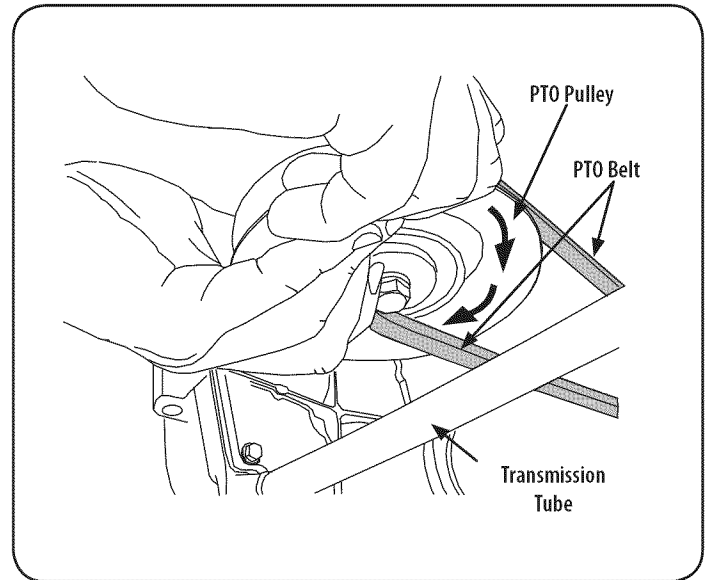

Figure 30
- d. While still holding the belt downward, continue turning the PTO pulley until the belt is rolled off the pulley. Refer to Figure 30.
11. Pull the right side of the belt rearward and place the narrow V side of the belt into the PTO pulley. See Figure 30.
12. While holding the belt and pulley together, rotate the pulley to the left (See Figure 30). Continue holding and rotating the pulley and belt until the belt is fully rolled into the PTO pulley.